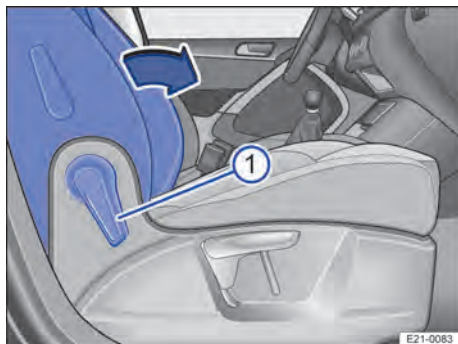

Fig. 60 Front passenger seat: folding the backrest forwards.
5. Pull the lever → Fig. 60 ⓘ forwards to unlock the front passenger seat backrest.
6. Fold the front passenger seat backrest forwards in the direction of the arrow → Fig. 60 until it is horizontal.